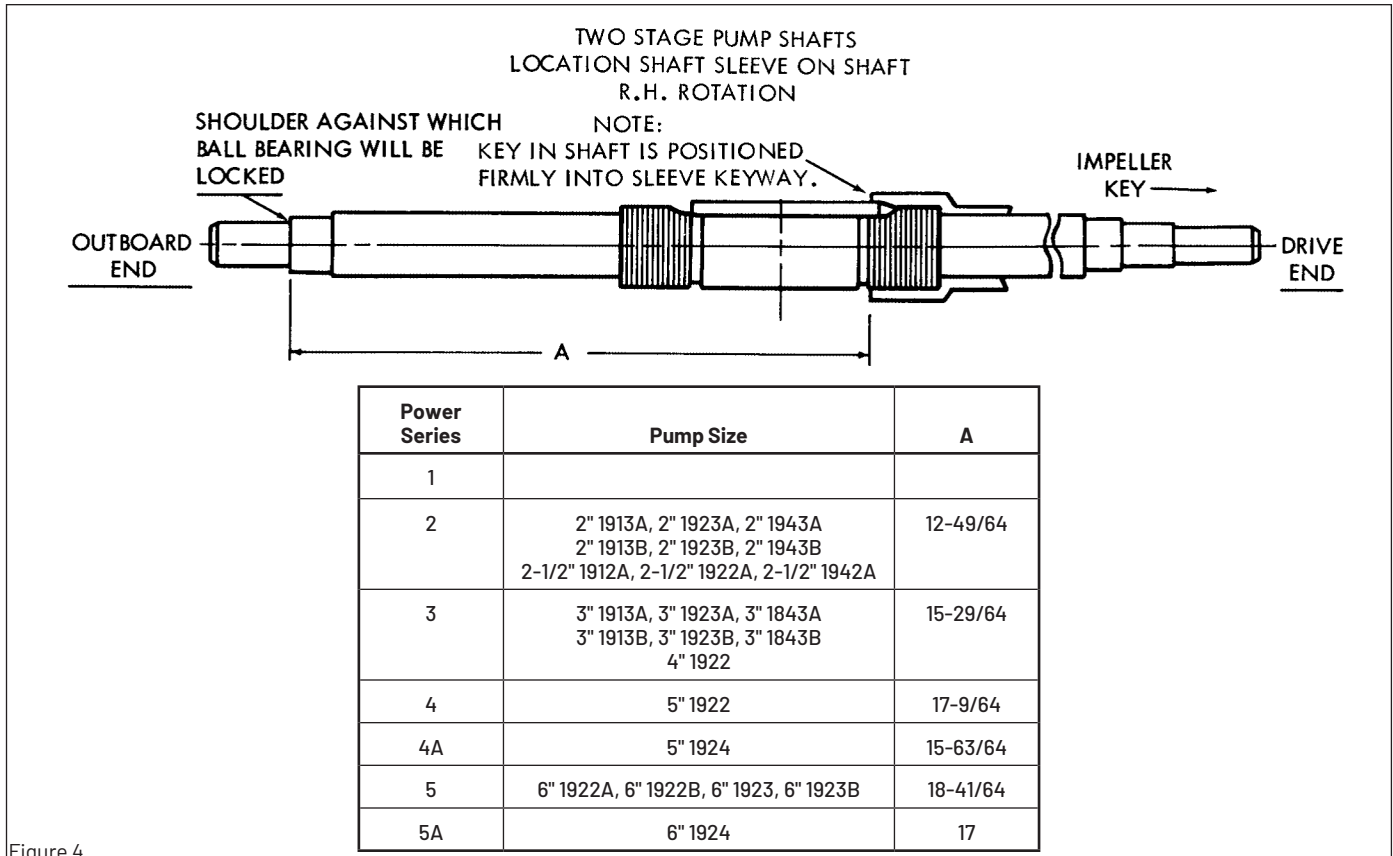
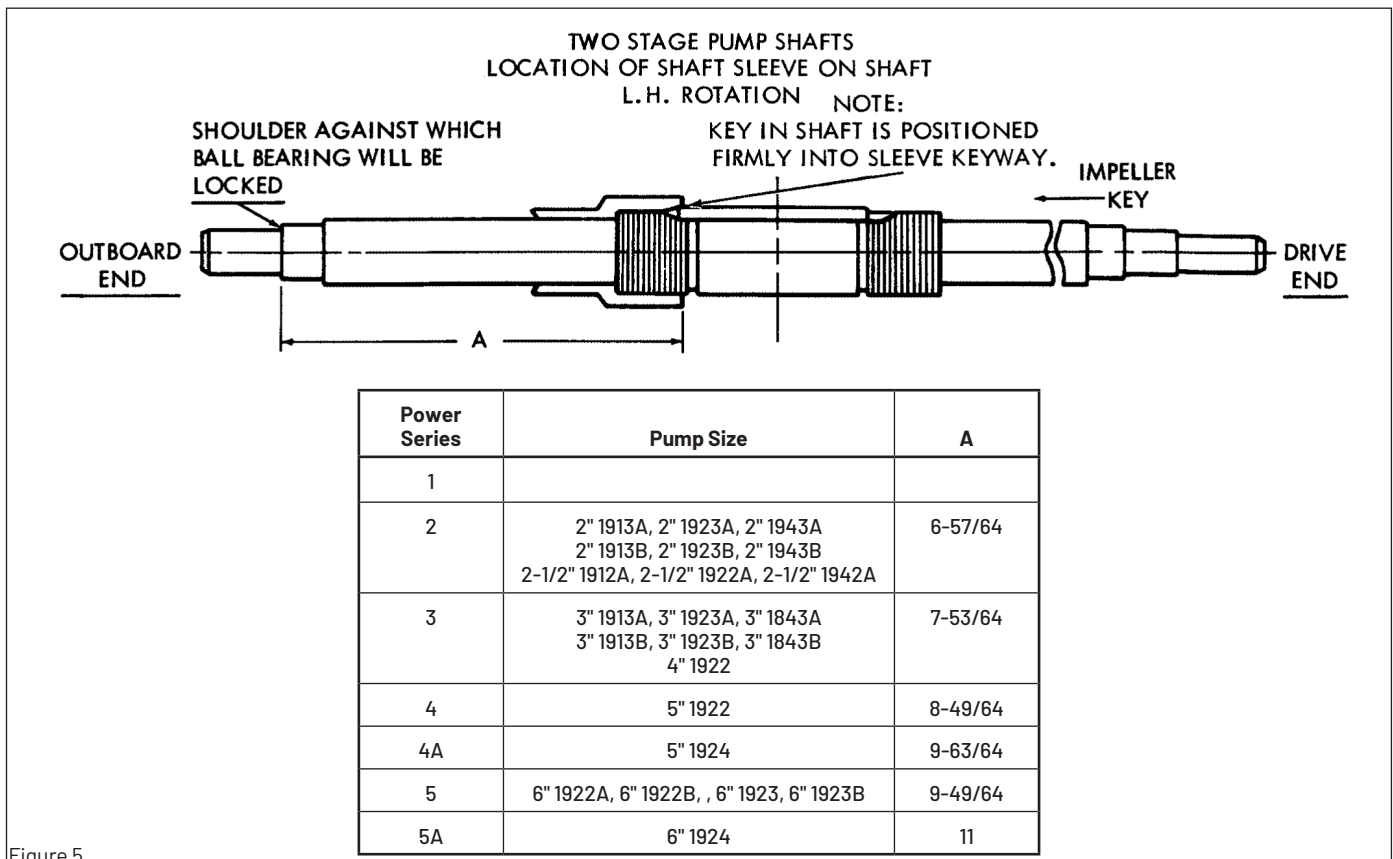

Figure 4.
Figure 5.
- Position locating pins (2C) in casing half (2), adding swing bolt pins (19F) if used on your pump. Install wearing ring pins (17A) and casing bushing pins (39C). Tap pins gently to seat them in place. Place O-ring (14B) in shaft sleeve (B14). If nameplate was removed, install it with screws.
- On right-hand unit, thread inboard sleeve (B14) onto shaft (4) distance "A". (Refer to Fig. 4.) On left-hand unit, thread outboard sleeve (A14) onto shaft distance "A". (Refer to Fig. 5.) When sleeve is in position, its keyway should align with keyway on shaft. Coat key and keyway with Loctite® sealant grade 242. Insert key (102) into keyways of shaft and sleeve. Tap key firmly in place.